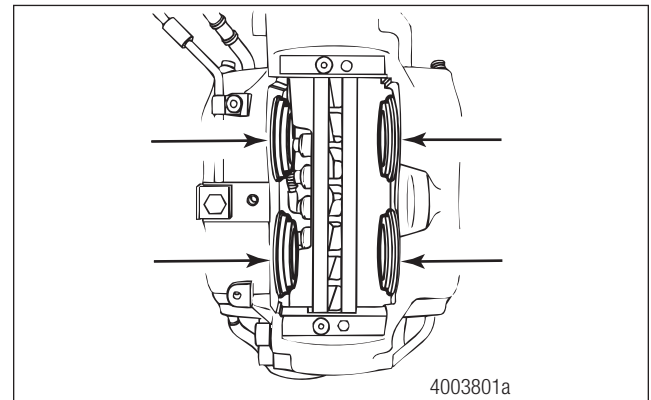

Figure 6.7
1. Inspect the caliper before reinstalling it onto the torque plate. The pistons should be fully retracted into the caliper. Check to ensure the piston boots are not loose or damaged. Verify the piston boots are fully seated into the housing. If any leakage, damage or defect is found, it may be necessary to disassemble or replace the caliper. Figure 6.7.